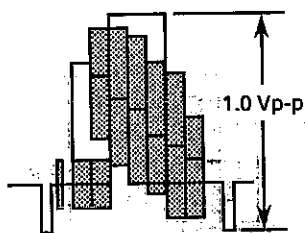

Figure 2-2.
3. Adjust R202 so that the signal amplitude is 1.0Vp-p as shown in Figure 2-2.